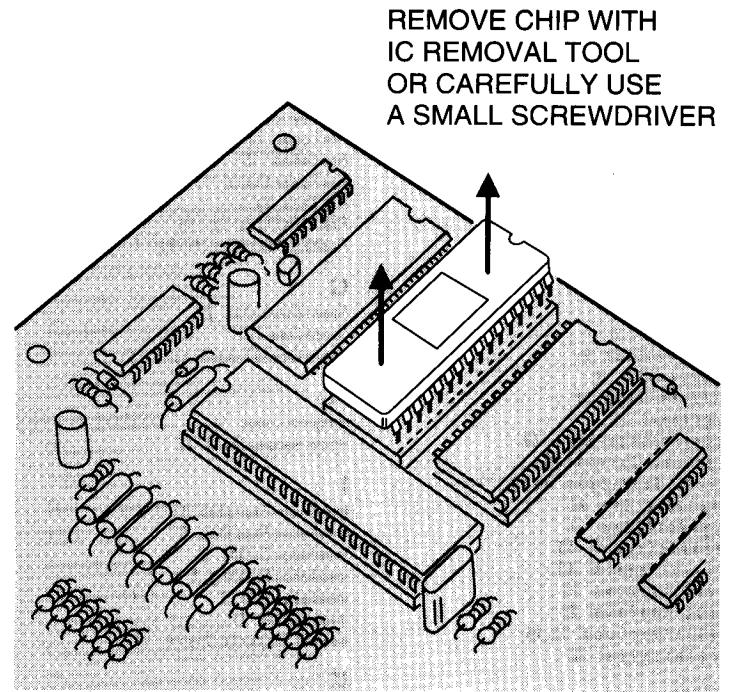

Figure 55. Removing Program Memory Chip
STEP 4 Remove program memory chip. Locate the proper chip. There are three large chips mounted vertically. The program memory chip is the center chip with a white version number label on it. With an IC removal tool or a small flat blade screwdriver, carefully lift or pry between the top side of the chip and the socket. The chip should slide out of the socket (see Figure 55).